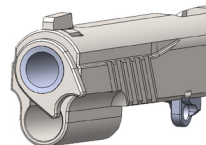

Figure 39
- Next, place barrel bushing into the slide with the lug aligned at the six o'clock position – Figure 39.